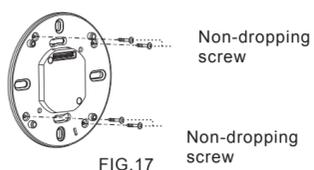

FIG.17
3.4.3.4 Insert 4pcs non-dropping screws to the corresponding screw holes on sensor's fixing plate, and those 4pcs screws will not drop off to provide convenience to the subsequent installations (See FIG.17).